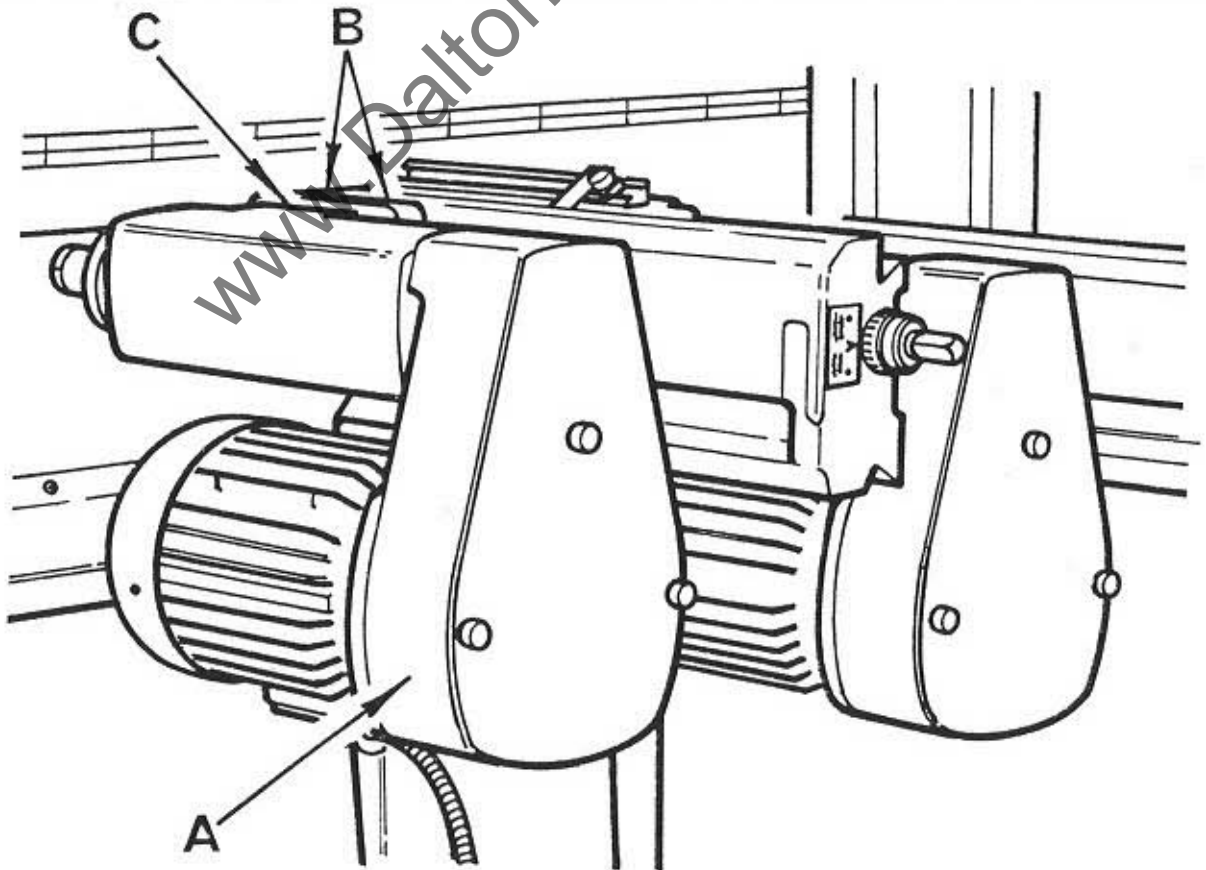

Fig 18
To set heads to required angle manually support motor and belt drive housing "A" in FIG 18 then loosen 2 - 12 mm locking nuts "B" which are situated at the rear of the head canting boss. Move head assembly to required angle using the canting scale "C". Relock 2 - 12mm locknuts "B".
1. Lower each pressure beam by releasing 2 - locking screws "A" in FIG 18 and turning pressure beam vertical adjustment screws "B" to apply pressure to the tracks. Relock 2 locking screws "A".